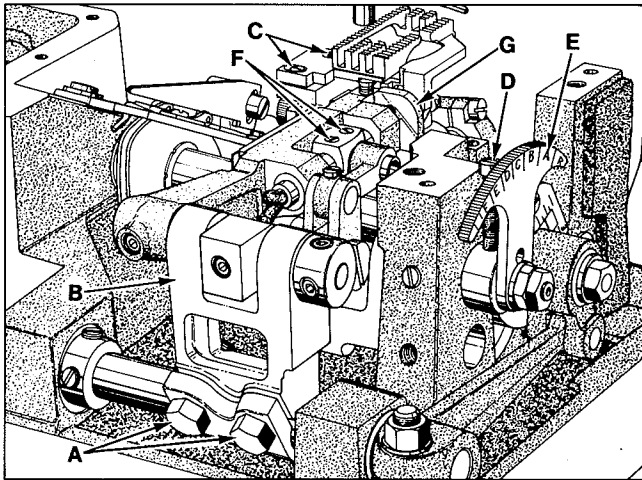

Fig. 10
To center main feed dog in throat plate slots, front to back or differential feed dog, left to right, loosen screws (A, Fig. 10), reposition feed rocker (B) slightly as required, retighten screws. Loosen screws (C) allowing main feed dog to be centered in throat plate slots left to right, retighten screws.
The differential feed ratio is set by loosening screw (D, Fig. 10) and moving the selector slide (E) to the desired position. The screw and selector slide are accessible through the top of the cloth plate on the left side. Moving the differential feed selector slide (E) toward the front increases the amount of differential and moving it back decreases the differential feed. Retighten screw.